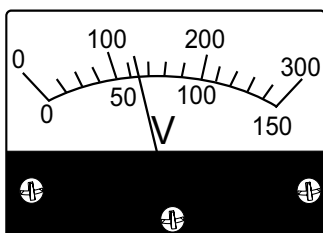

Figure 71. AC Voltmeter (120/240V)
4. Also verify that the AC voltmeter is registering a voltage reading as indicated by Figure 71.
9. Verify that the AC voltmeter is registering a voltage reading as indicated by Figure 71.